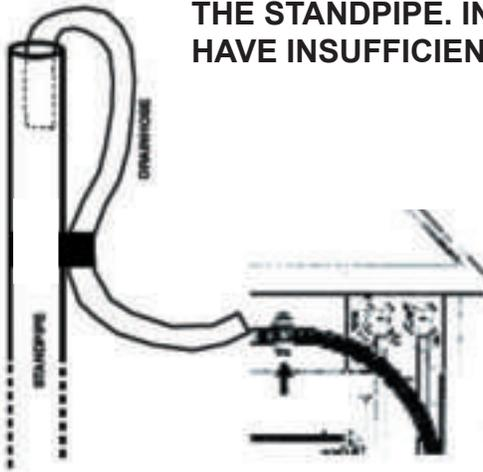

Figure 2
- Outlet end of drain hose (See figure 2) must be at least 20" above bottom of washer. Do NOT block top of standpipe closes with tape or other materials. An air break must be provided at the standpipe to avoid siphoning.